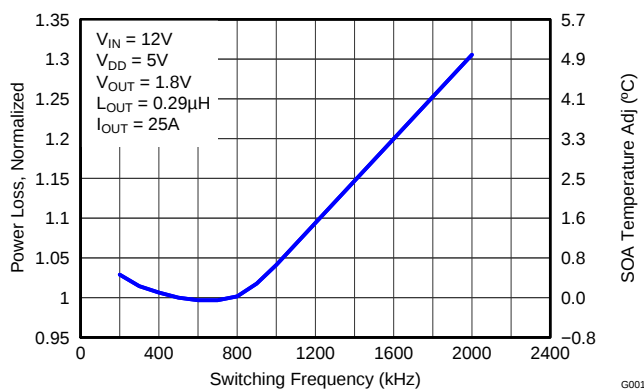

Figure 7. Normalized Power Loss vs Frequency
- Normalized Power Loss for switching frequency  $\approx 1.04$  (Figure 7)
- SOA adjustment for switching frequency  $\approx 0.7^{\circ}C$  (Figure 7)